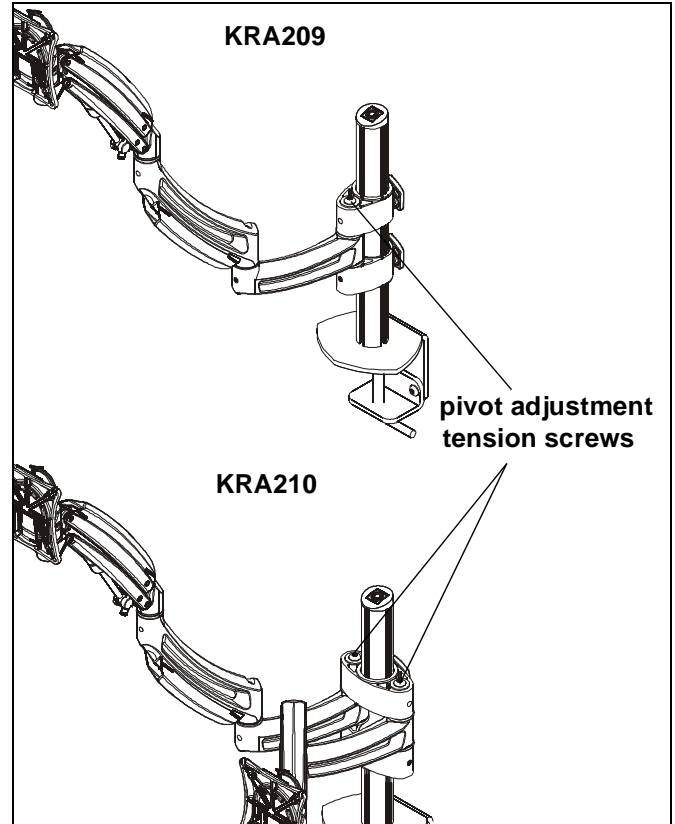

Figure 6
2. Use 3/16" hex key (B) to adjust pivot point tension screws to change pivot adjustment tension. (See Figure 6)